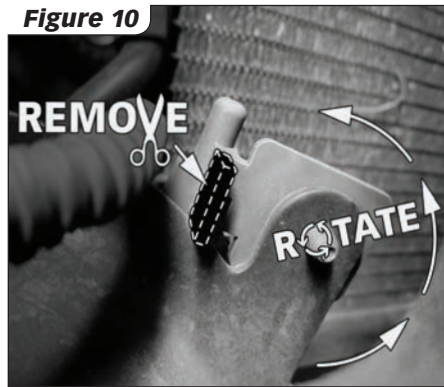

Figure 10
15. If necessary, modify ambient temperature sensor by trimming catch and rotating the top away from the LTR, as shown. **See Figure 10**